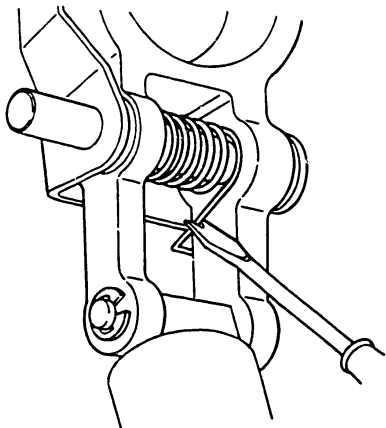

Fig. 126 Setting the cancel spring
10. For ease in attaching the cancel spring (35/7), we recommend that you use a V-notch screwdriver as shown in Fig. 126.